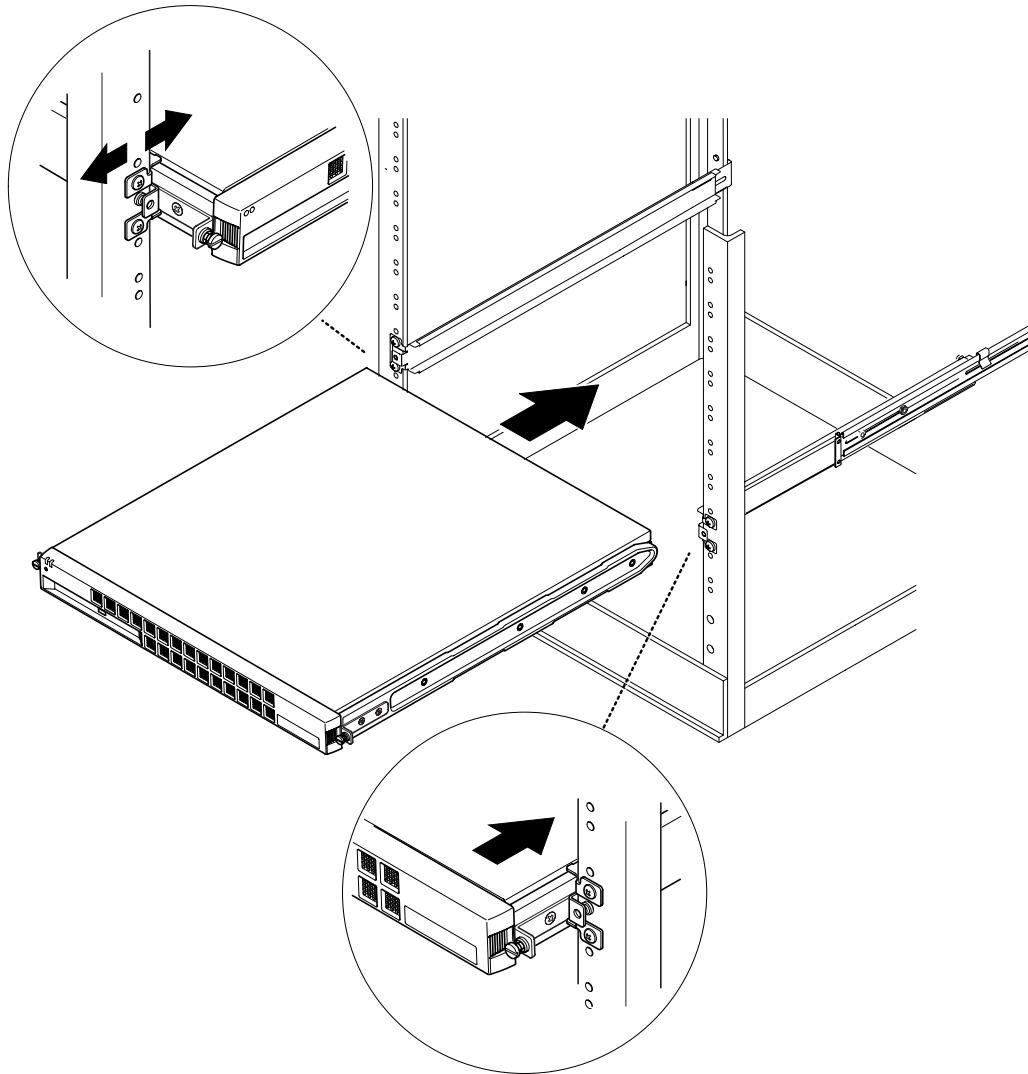

FIGURE 5-7 Sliding the Netra T1 Server Into a Standard 19-Inch Rack
7. Slide the Netra T1 server into the rack (see FIGURE 5-7).